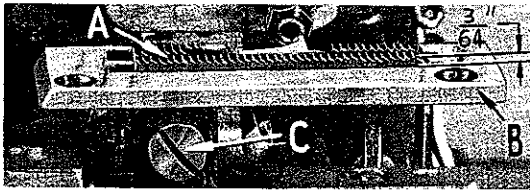
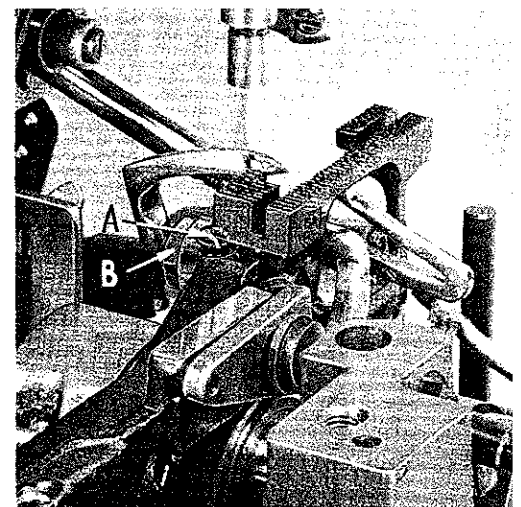
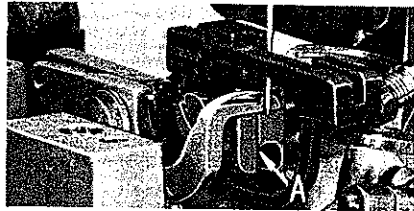

Fig. 7
Fig. 8
Fig. 9
Set the feed dog (A, Fig. 7) in the throat plate (B) so there is equal clearance on all sides and that the tips of the teeth are parallel with and project $3/64$ inch above the throat plate at high point of travel. Adjust the supporting screw (A, Fig. 8) under the feed dog to maintain this setting. Screw (C, Fig. 7) is used to
If feed dog teeth are not parallel with the throat plate, loosen nut (B, Fig. 8) and turn screw (A, Fig. 9) clockwise to lower the front teeth, and counterclockwise to raise the front teeth. Retighten nut when feed dog is set properly.